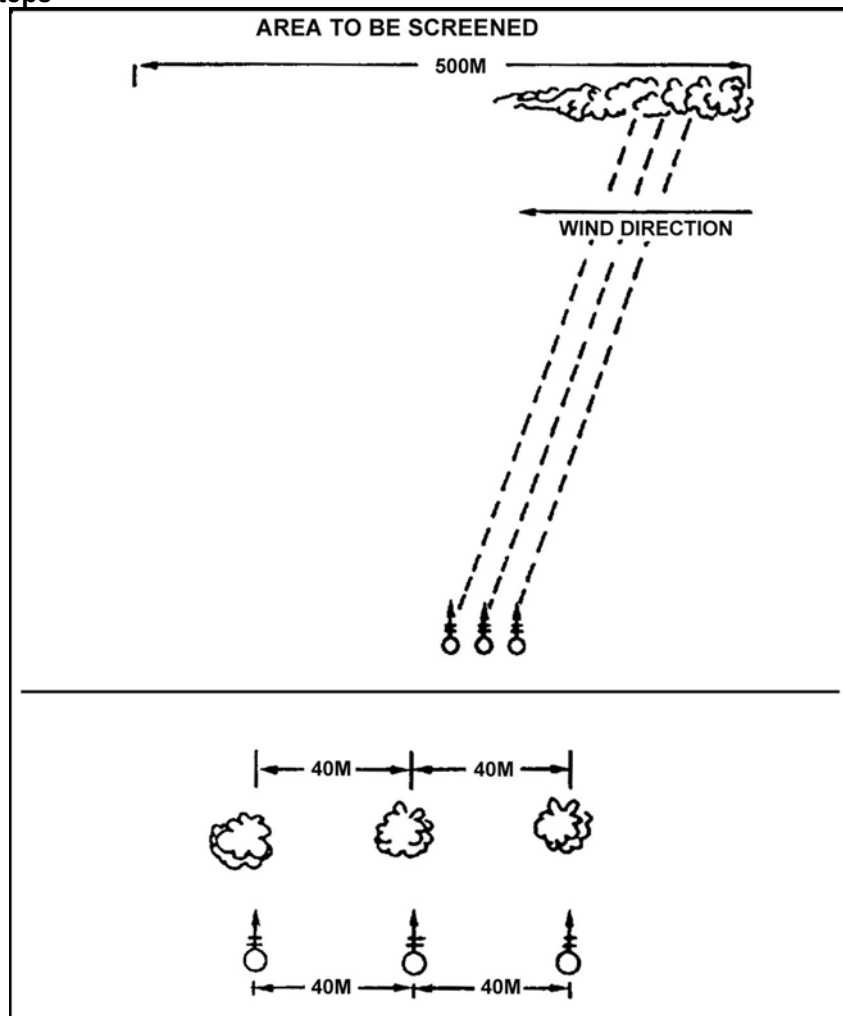

Figure 1. Quick-smoke, parallel sheaf.
- a. The quick-smoke mission is computed the same as a high-explosive (HE) area-type mission (parallel sheaf) with the following exceptions (Figure 1).